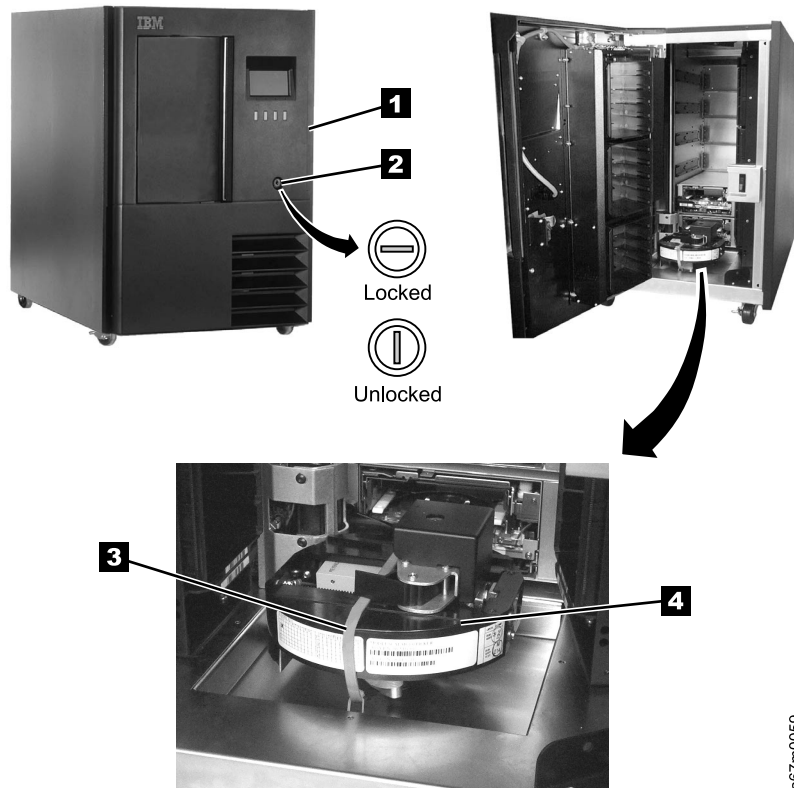

Figure 21. Removing the band that secures the picker
1. Open the front door (see **1** in Figure 21) by inserting the key into the keylock **2** and turning it to the right.